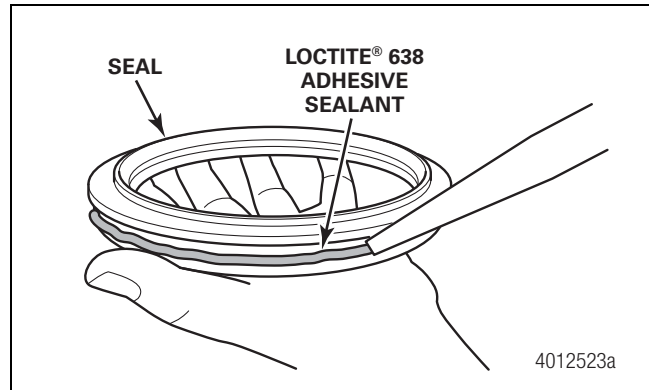

Figure 14.1
5. Prior to installing the new hub seal, apply a bead of Loctite® 638 adhesive sealant around the outside diameter of the seal as shown. Use Loctite® 680 adhesive sealant if Loctite® 638 is unavailable. Figure 14.1.